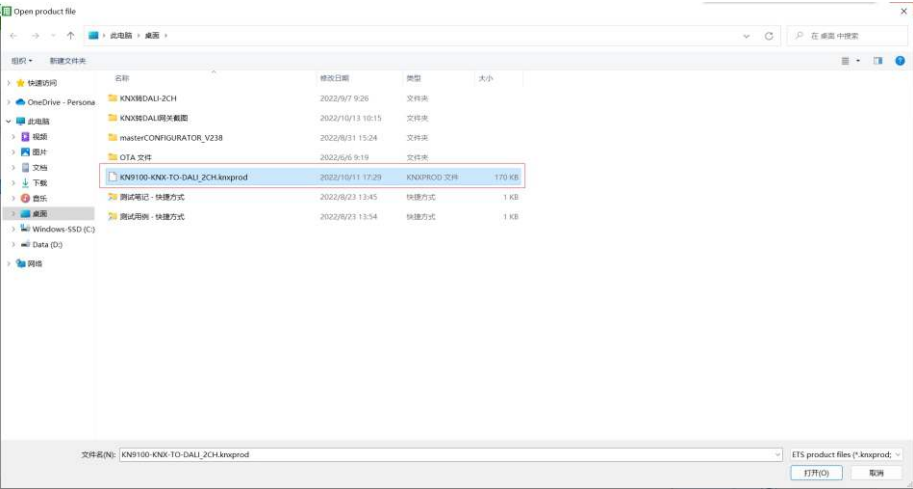

Figure 15
2.2. Choose and click on the database file of the gateway from the computer as shown in Figure 15.